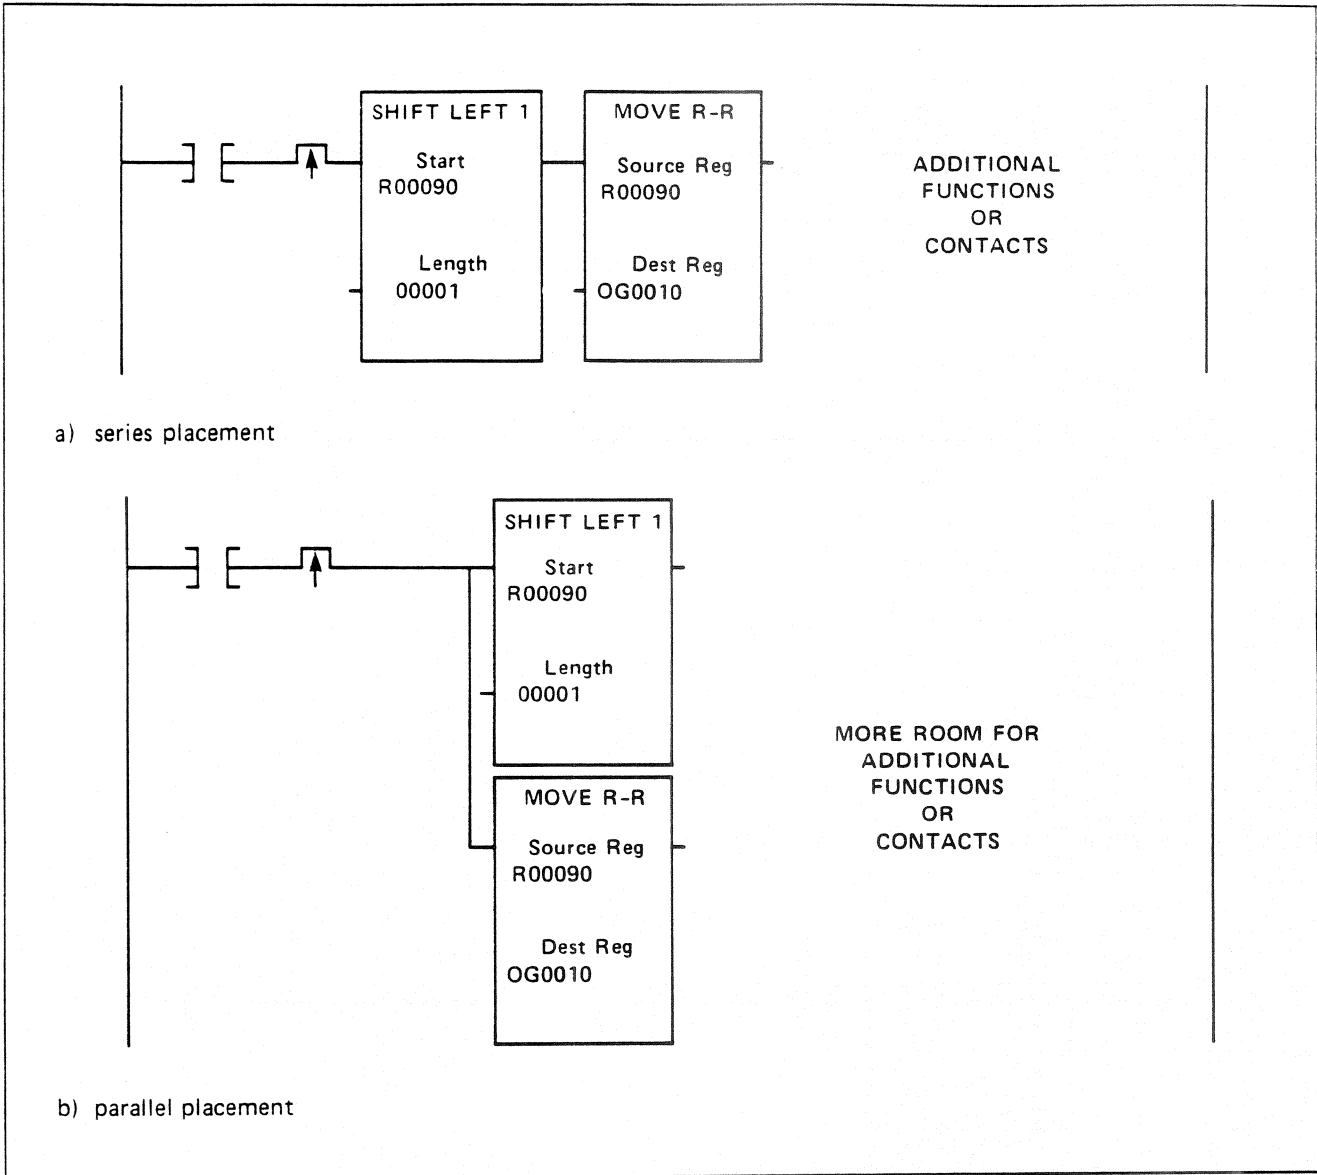

Figure 10-7. Reconfiguring Programmable Functions
The order of execution affects the operation of a rung, especially when several programmable functions are contained in the network. An example showing the relationship between the execution of programmable functions is shown in Figure 10-7. Observe the Figure and note the following 3 points:
1. The data contained in register R00090 is shifted left one place and then moved into OG0010 in Figure 10-7(a).
2. The same programmable functions shown in Figure 10-7(a) are arranged in parallel in Figure 10-7(b). This arrangement would allow more programmable functions to be programmed to the right, increasing the total
3. If the 2 programmable functions shown in Figure 10-7(b) had been interchanged, the results from the execution of the network would be different. The data would be moved to output group OG0010 before being shifted, thereby resulting in the incorrect data being transferred.